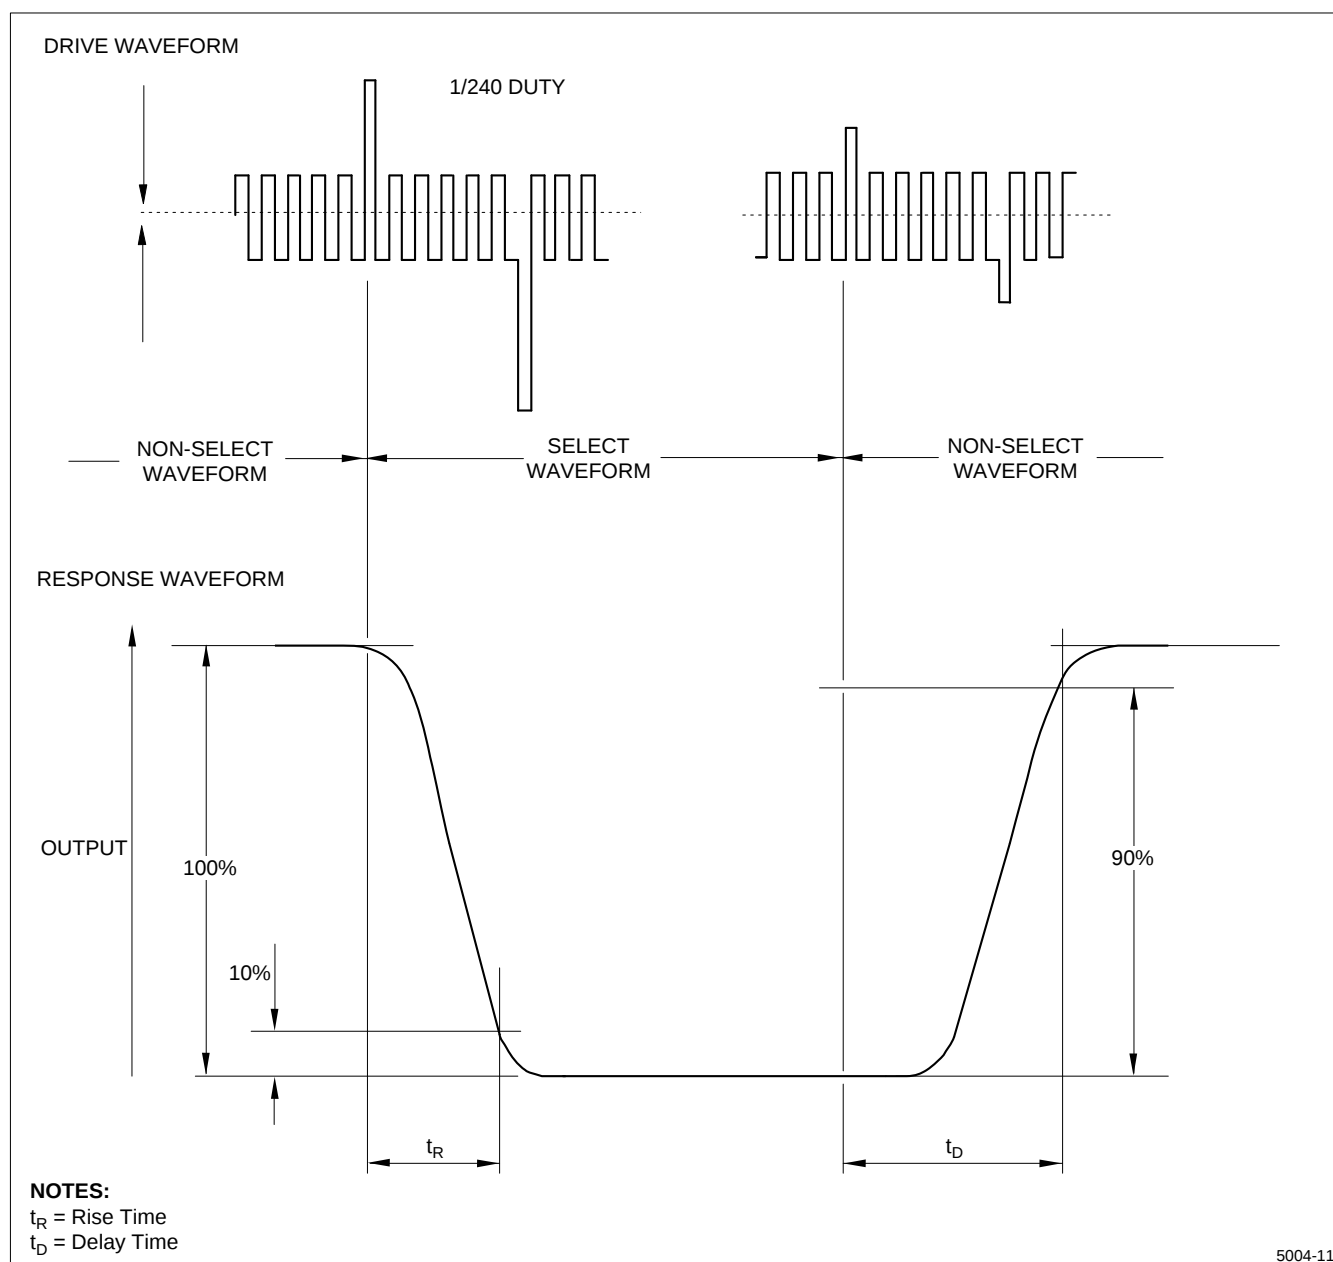

Figure 11. Definition of Response Time
- The response characteristics of the photodetector output are measured as shown in Figures 10a and 10b, assuming that input signals are applied to select and deselect the dots to be measured, in the optical characteristics test method shown in Figure 11.